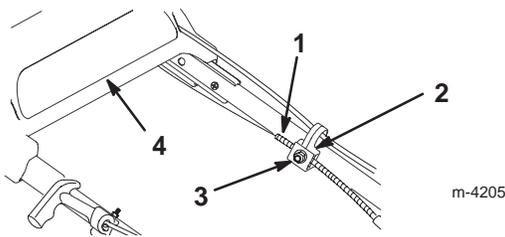

Figure 1
2. Loosen the cable support nut (Fig. 1).